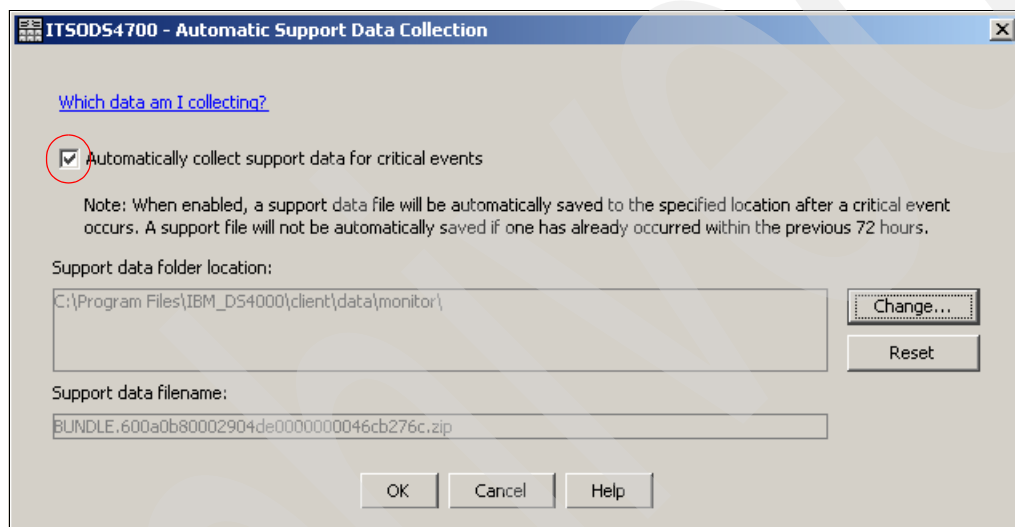

Figure 9-37 Enabling automatic data collection
2. Click the check mark to enable the automatic data collection and specify the destination folder, as shown in Figure 9-37.